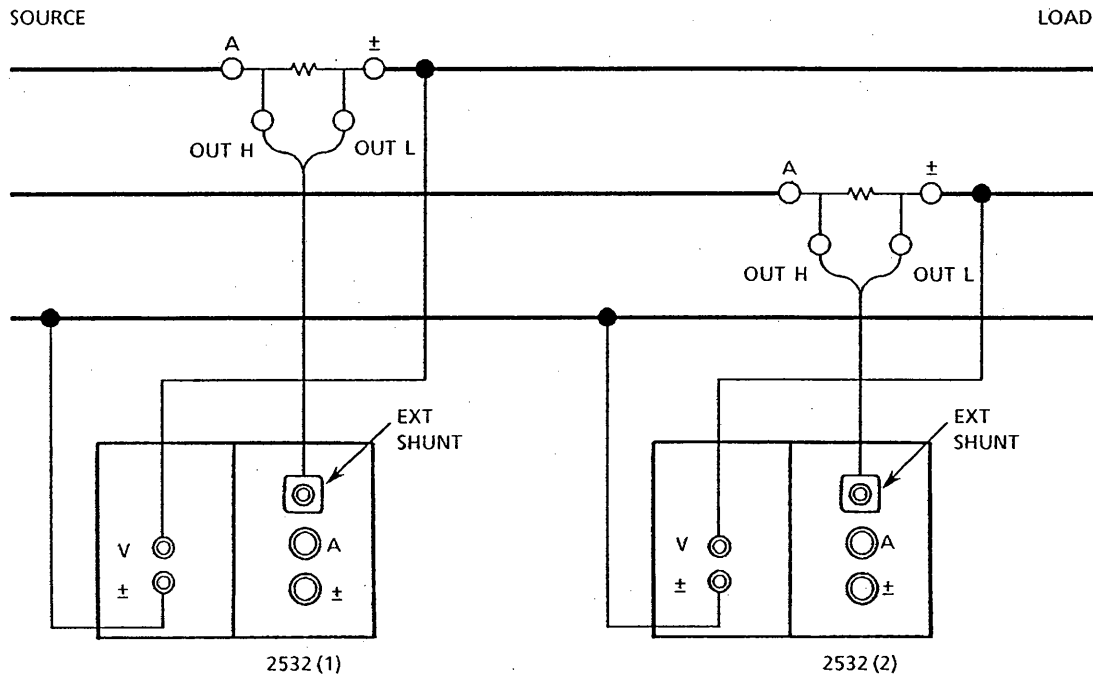

Figure 3.15
The wiring method shown in Figure 3.15 results in connections that do not follow the guidelines in CAUTION item (b) in Section 3.3.1 (1) suggesting that “±” terminals always be connected to the low side; see the discussion under that item concerning the error effects that may result.